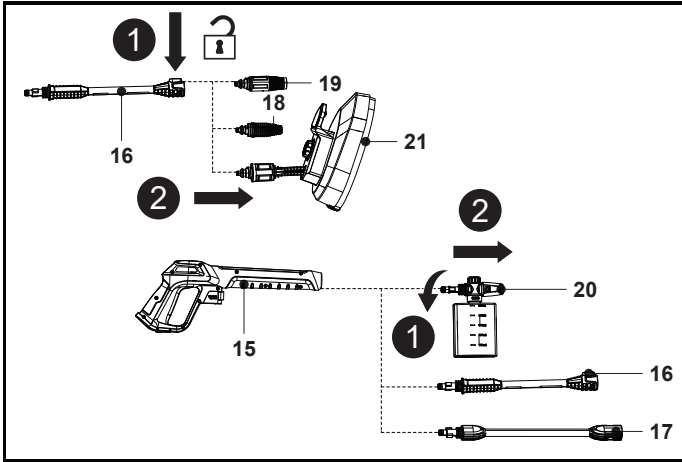

Fig. 19
1. Disconnect the nozzle (18 / 19 / 21) from the extension lance (16); Disconnect the detergent bottle nozzle (20), extension lance (16), extension pole (17) from the spray gun (15) (Fig. 19).